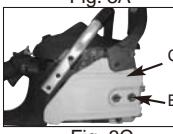

Fig. 3C
2. Remove the bar retaining nut (B). Remove the CHAIN BRAKE cover (C) by pulling straight out, some force may be required. (Fig.3C).